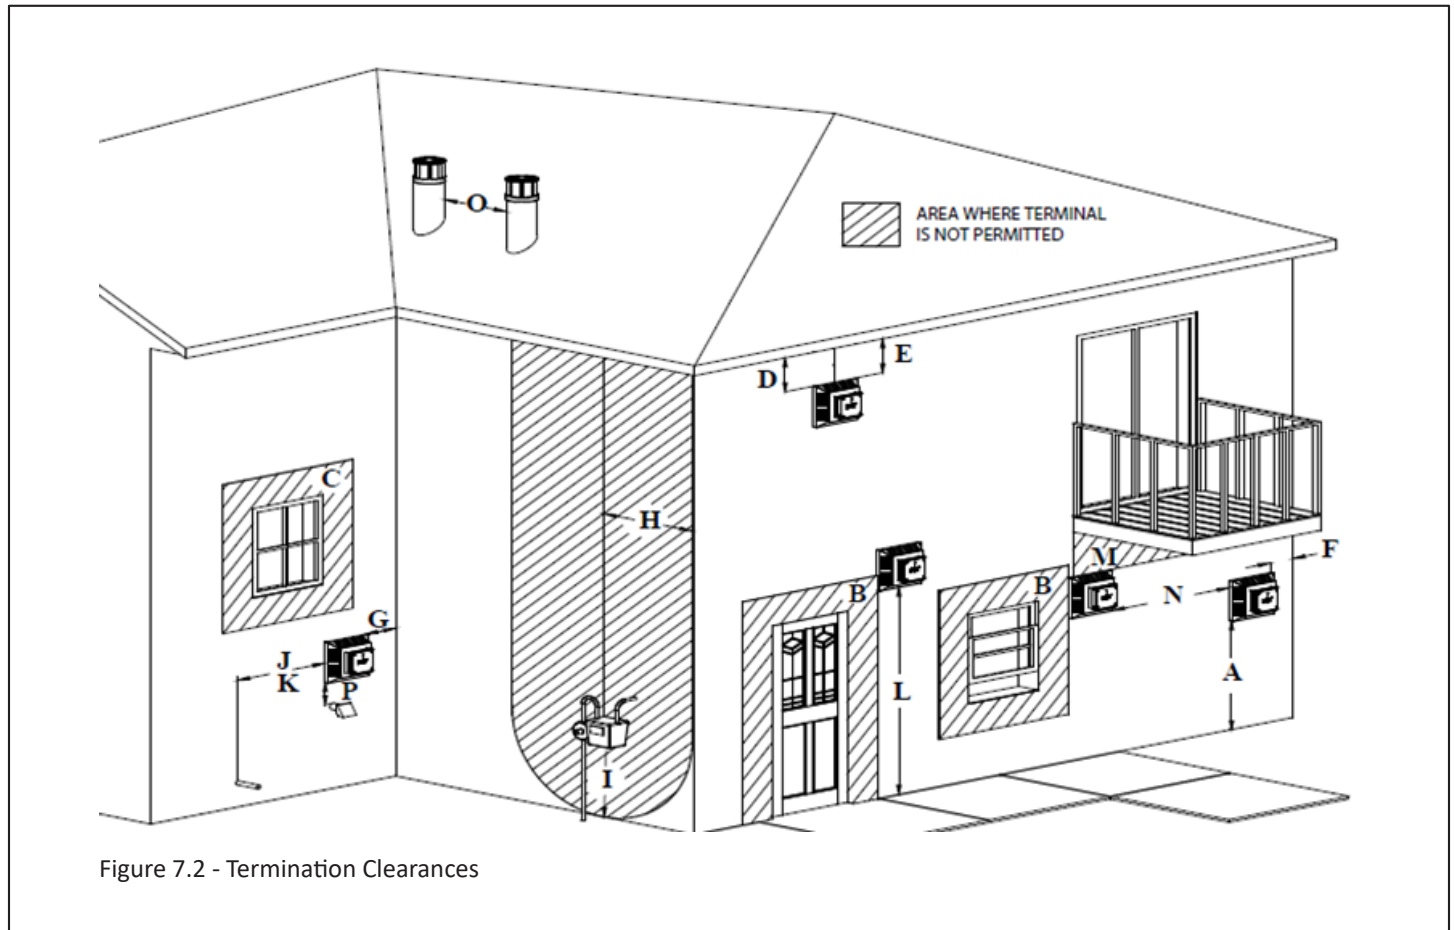

Figure 7.2 - Termination Clearances
- Refer to Figure 7.2 and the Table 7.1 for natural draft vent termination clearance locations.